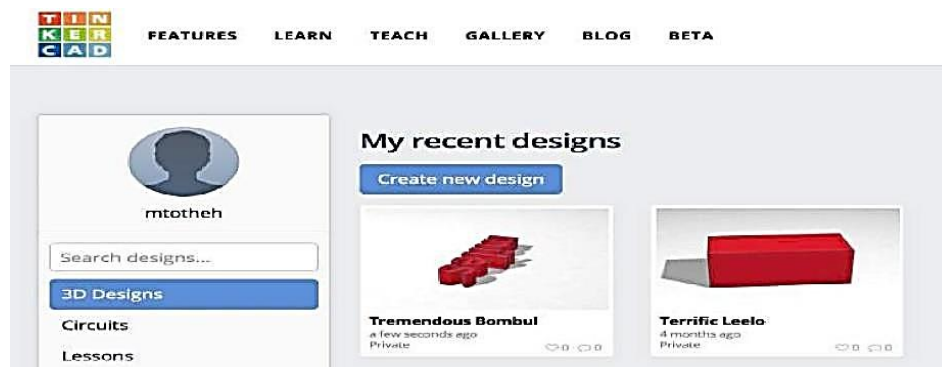

Fig. 4.11: Create New Design Button
1. Click on the Create new design button (Fig. 4.11).